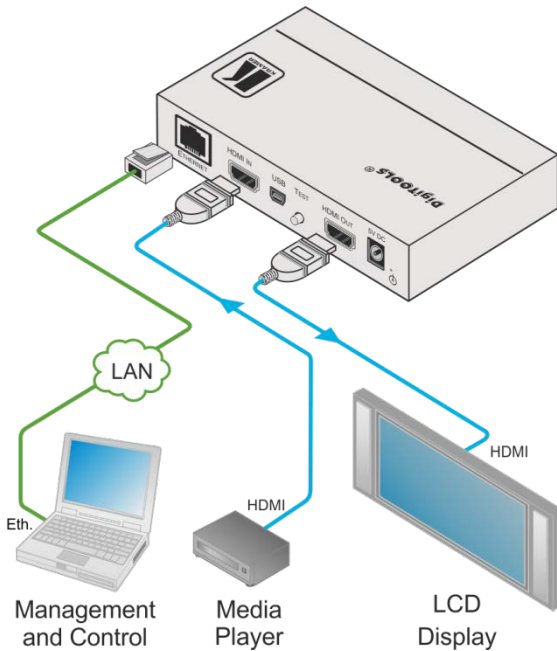

Figure 5: Connecting the VCO-1
To connect the VCO-1 as illustrated in the example in Figure 5:
3. Connect the 5V DC power adapter to the power socket and connect the adapter to the mains electricity (not shown in Figure 5).